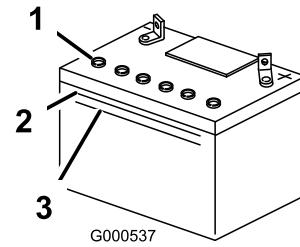

Figure 43
1. Look at the side of the battery. The electrolyte must be up to the **upper line** (Figure 43). Do not allow the electrolyte to fall below the **Lower line** (Figure 43).
3. Remove the vent caps from the battery (Figure 43).
4. Slowly pour distilled water into each battery cell until the electrolyte level is up to the Upper line (Figure 43) on the battery case.
5. Wait five to ten minutes after filling the battery cells. Add distilled water, if necessary, until the electrolyte level is up to the Upper line (Figure 43) on the battery case.